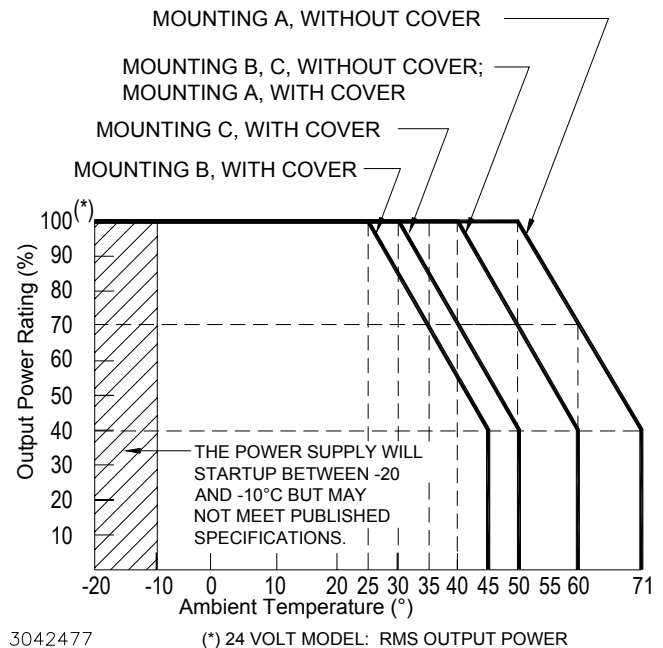

FIGURE 1. OUTPUT POWER VS. TEMPERATURE
- (1) An overvoltage shuts down the output. Recover by recycling a-c input (30 second delay required before resetting).
- (2) The current limit is rectangular. After the overload is removed, output is automatically restored.
- (3) Bandwidth 100 MHz. Ripple and noise will be approximately 1.5 times these values in the operating temperature range -10 ~ 0°C. The ripple and noise values tabulated are valid when the output is derated as shown in Figure 1 from 50 ~ 65°C
- (4) Used for remote programming of output voltage. See Section IV OPERATION, REMOTE VOLTAGE PROGRAMMING.
- (5) Peak Current: 6.5A (useful for motor start applications). Thermal protection (24V model only) cuts off output voltage if overtemperature detected; after sufficient cooling, output voltage returns automatically.
OPERATING TEMPERATURE: -10 to 50°C (start up -20 to -10°C). See the derating, Figure 1. Do not allow the power supply to become dust covered because that will decrease the cooling efficiency of the unit and cause insulation to deteriorate.
MOUNTING THE POWER SUPPLY: Refer to Figures 4 and 5. The unit may be mounted on one mounting surface. Note the restrictions for maximum penetration of mounting screws. The air surrounding the power supply must not exceed the ambient values given in the graph in Figure 1.
2. REFER TO FIGURE 1 FOR OUTPUT POWER VS. TEMPERATURE FOR MOUNTING METHOD SELECTED.